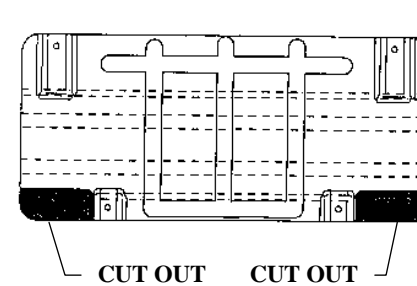

Fig. 2 Thermal shield cut outs
2. Disassemble last muffler and thermal shield. Cut out fragments of thermal shield according to figure 2 then reassemble it..